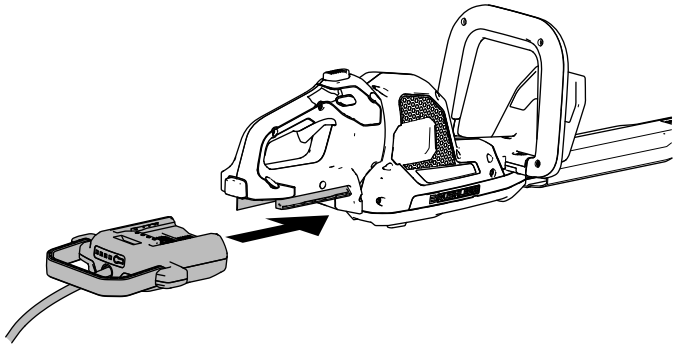

Figure 5
- Align the battery connector and insert it into the tool until it locks into the latch as shown in Figure 5.